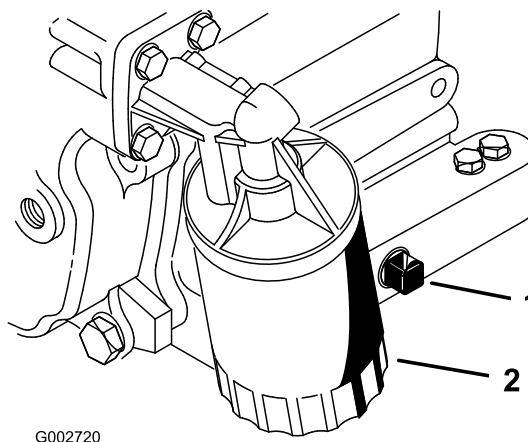

Figure 26
2. Remove the drain plug (Figure 26) and let the oil flow into a drain pan. When the oil stops, install the drain plug.
3. Remove the oil filter (Figure 26).